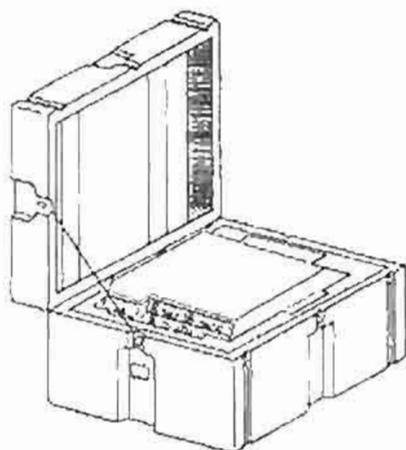

Figure 1-5. Shipping/storing chest.
c. *Chest (fig 1-5)*. The chest, with polyurethane cushioning material, provides protection for the ES apparatus during shipment and storage. It also provides for storage of the footswitches. The polyurethane material has cutouts to position the ES apparatus and footswitches.